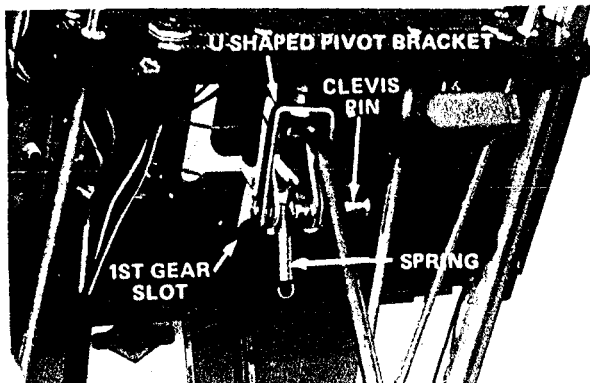

Figure 5
1. Install tension spring through hole at bottom center of wheel drive control (Fig. 5).
2. From back side, slide wheel drive control lever through 1st gear slot in control panel (Fig. 5). Next, line up holes in wheel drive control pivot with U-shaped pivot bracket; then secure parts in place with clevis pin (Fig. 5). Head of clevis pin must be on right side of U-shaped bracket.